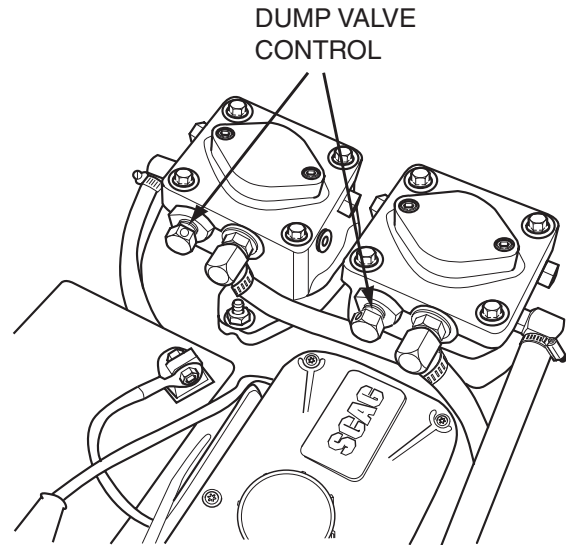

Figure 4-2 Dump Valve Control
11. **Dump Valve Control (Figure 4-2).** Located on the hydraulic pumps, used to "free-wheel" the mower. Rotating the levers clockwise until they stop allows the unit to move under hydraulic power. The levers must be in this position and torqued to 10ft/lbs during operation of the mower. Rotating the levers counter-clockwise, 1-2 turns, allows the mower to be moved by hand (free-wheeling).
To “free-wheel” or move the mower around without the engine running, place the dump valve levers in the FREE-WHEEL position (Figure 4-2, page 13). Disengage the parking brake and move the mower by hand. The dump valve levers must be returned to the DRIVE position and torqued to 7-10 ft/lbs to drive the mower.